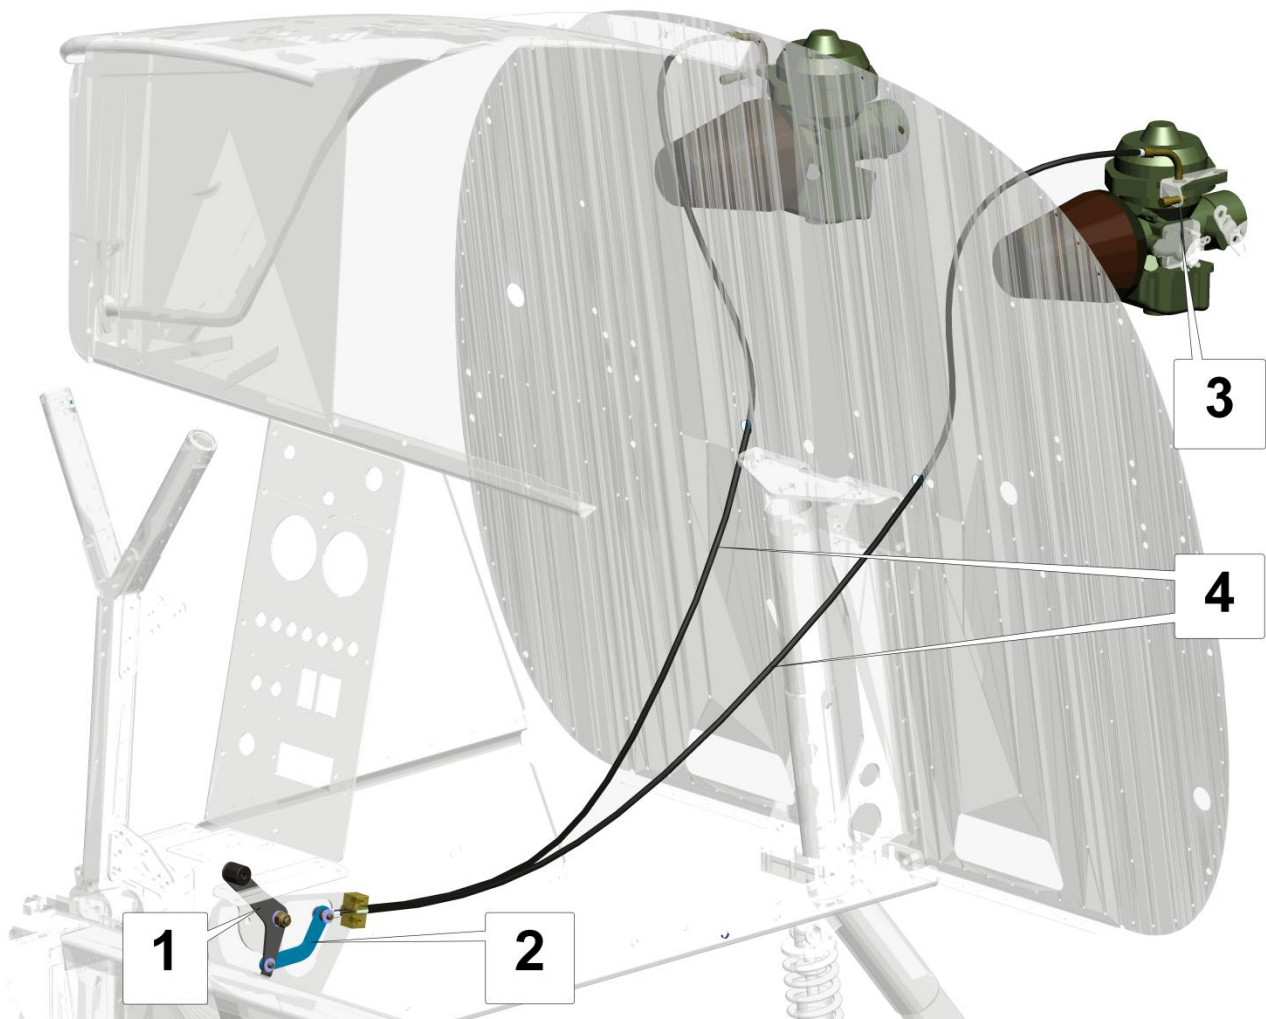

Fig. 10 Engine pre-start mixture control
Engine pre-start mixture control (**Fig. 10**) is achieved using the choke control lever (1), connected with cables to the choke control arms of the right (3) and left (4) carburetor. The cables are passed through the flexible sheaths – the right (5) and the left (6) one.